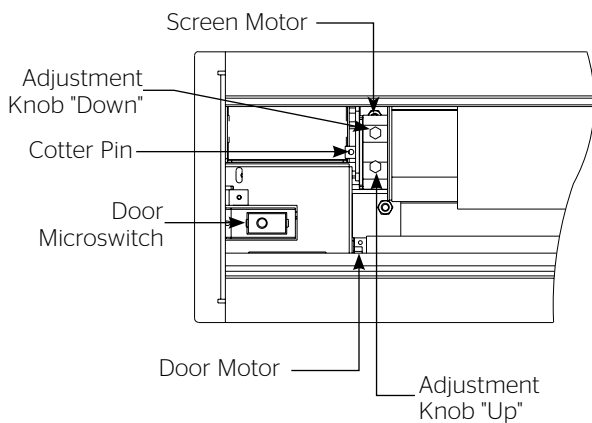

Figure 2
6. Carefully remove tape strips securing picture surface around roller. Slat should move freely (Fig. 2). (Only if the roller assembly is preinstalled.)
2. When the screen stops, turn the "down" limit knob (Fig. 2) one-quarter turn counterclockwise. Test by raising picture surface approximately two feet, then lower again. Repeat until desired picture surface position is attained.
3. Turn the "down" limit switch (Fig. 2) one-quarter turn clockwise. Test by raising picture surface approximately two feet, then lower again. Repeat until desired picture surface position is attained.